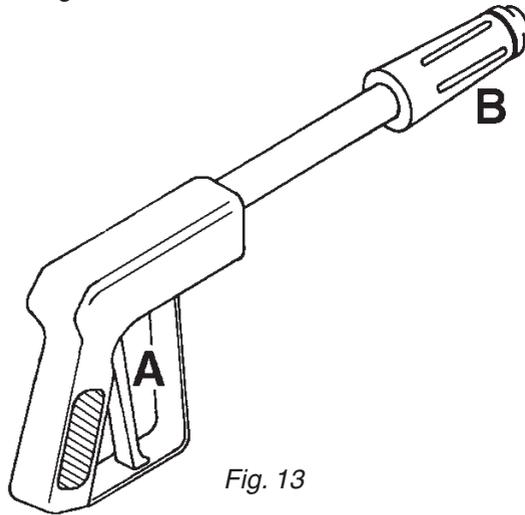

Fig. 13
8. Then depress the red handle **A** (Fig. 13) to spray fluid from the spraygun. Check the pressure on the system pressure gauge **2** (Fig. 12) and follow step **6** to adjust.
9. To adjust the spray pattern, turn the black handle **B** (Fig. 13) OUT for a narrow spray pattern for long distances and IN for a wide pattern for more coverage at close distances.